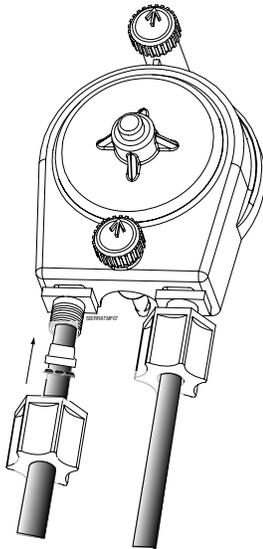

Figure 4. Installing Chemical Tubing
5. Tighten to a secure fit. See Figure 4.
It is very important that the nut components be installed correctly, as shown in Figure 4.
1. Connect the 1/4 inch line or 1/8-inch line, as appropriate, to the nut on the right (outlet side) of the squeeze tubes. Tighten the nut on the fitting. See Figure 4.